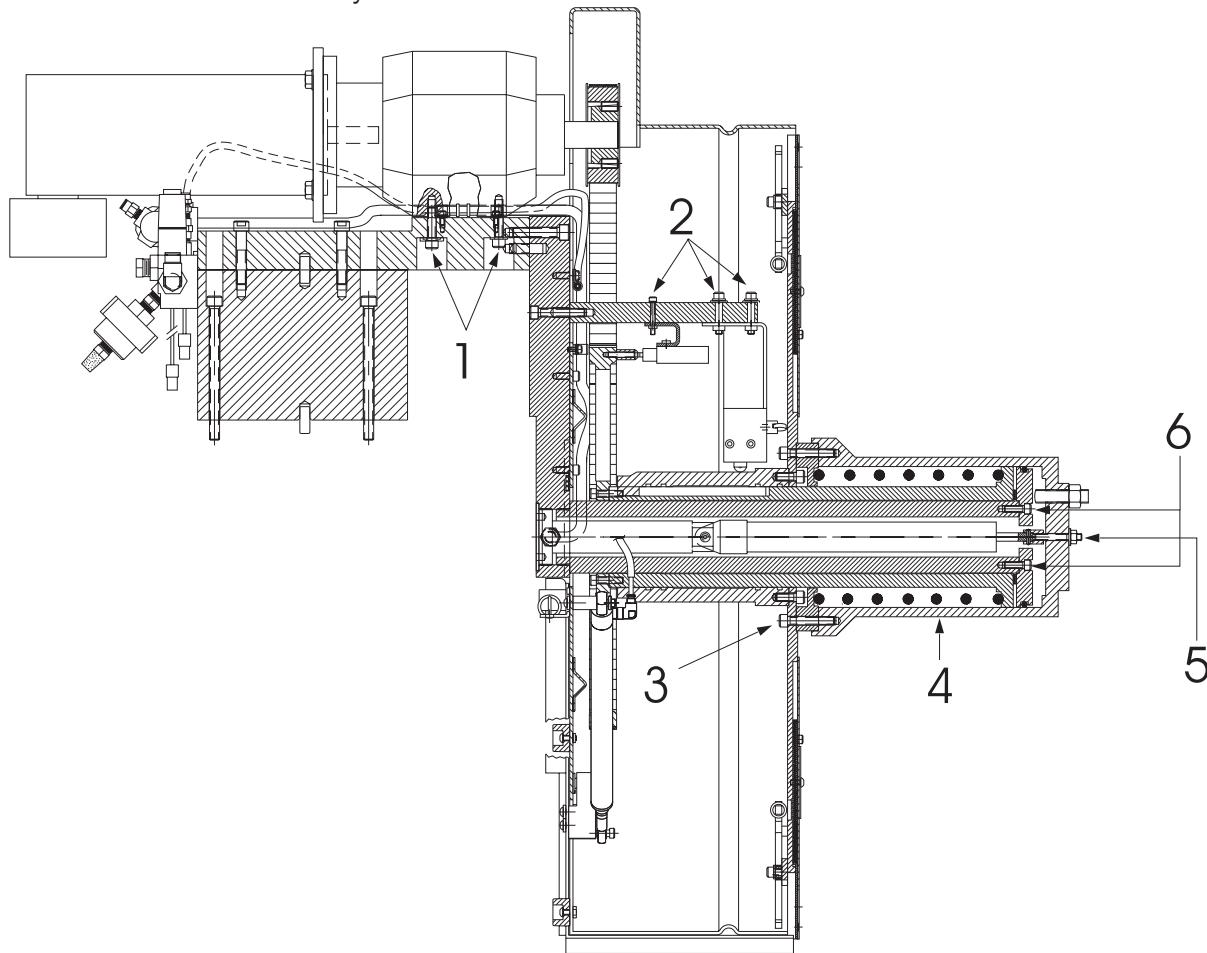

Figure 3-20. Carousel replacement.
6. Remove the four SHCS that mount the gearbox to the top mounting plate. (Fig. 3-20 #1)
8. Remove the four SHCS that secure the (2) switch brackets and place them clear of the large pulley (Fig. 3-20, #2).
11. Remove the six SHCS that mount the cylinder cap to the carousel. (Fig. 3-20, #3)
12. Remove the hex nut that attaches the shock absorber to the cylinder cap (Fig 3-20, #5)
14. Remove the six SHCS that attach the locking cap to the shaft assembly(Fig 3-20, #6)
4. Install the locking cap (Fig. 3-20, #6). Use care to align the spacer washer so it is not damaged when the locking cap is installed.
6. Install the shock absorber nut. (Fig. 3-20, #5)
7. Install the six SHCS that attach the cylinder cap to the carousel (Fig. 3-20, #3). Tighten evenly.
10. Install the switch bracket and four SHCS. (Fig. 3-20, #2)
12. Install the four SHCS that mount the gearbox to the top mounting plate. (Fig. 3-20, #1)